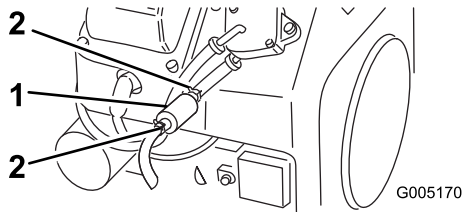

Figure 25
4. Squeeze the ends of the hose clamps together and slide them away from the filter (Figure 25).
5. Place a drain pan under the fuel lines to catch any leaks, then remove the filter from the fuel lines (Figure 25).